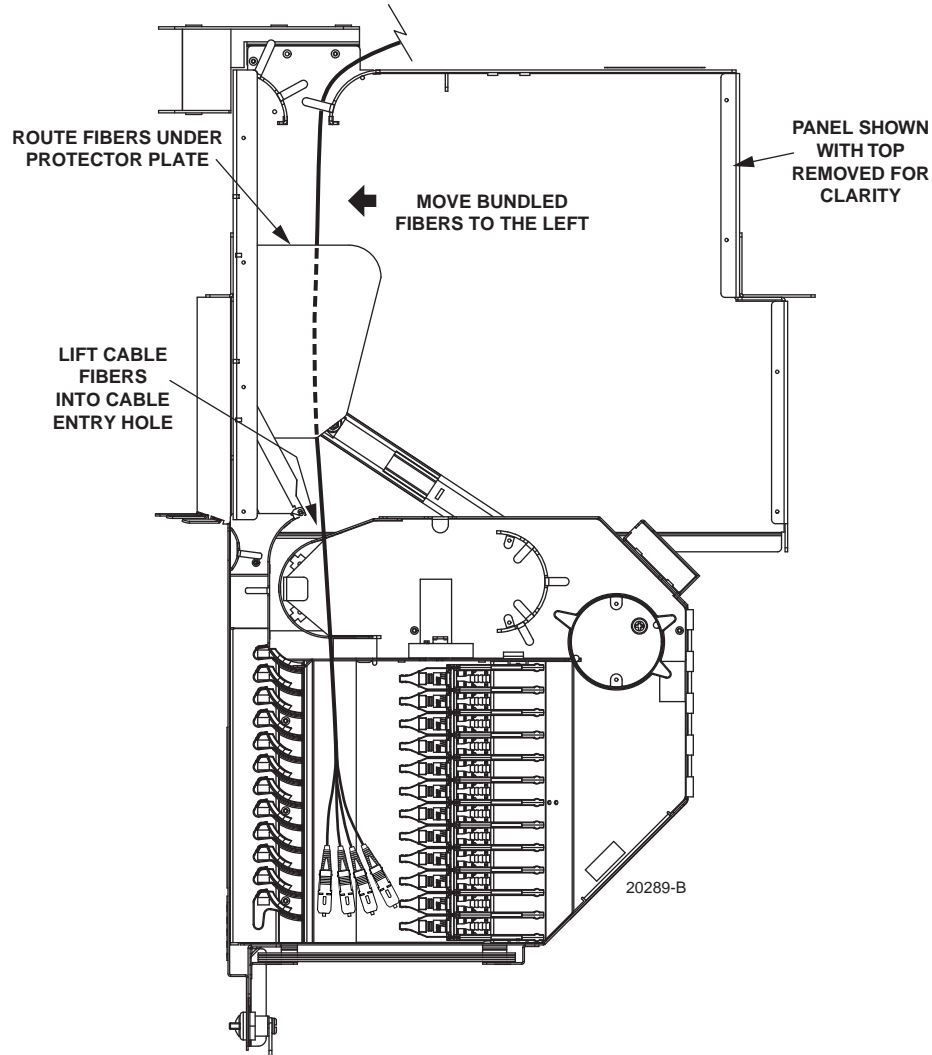

Figure 23. Positioning IFC Cable Within Standard Termination Panel
5. At the front of the panel, lift the cable up over the top edge of the hinged drawer and move the cable to the cable entry hole on the left side of the drawer, as shown in Figure 23.